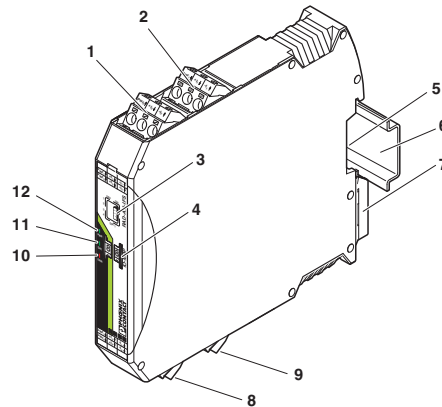

Figure 7-1 RAD-AI4-IFS structure
A supply voltage of at least 12 V DC is available at connection terminal block PWR₁ for passive sensors (see Figure 7-1, item 1).